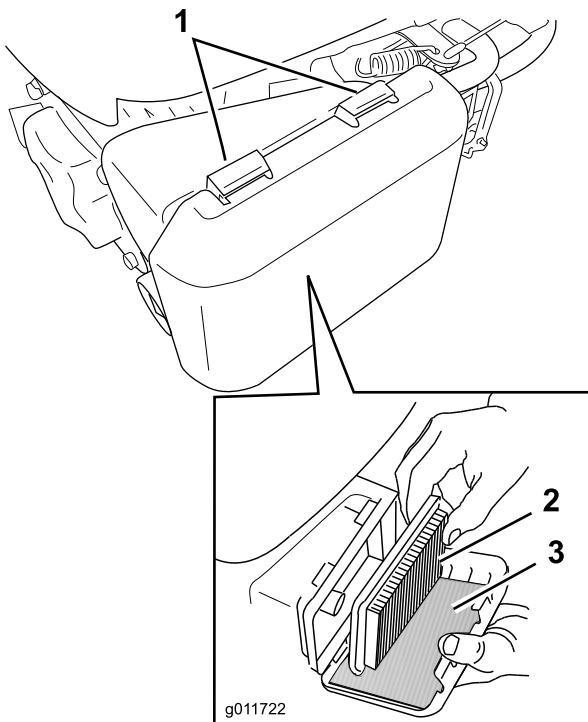

Figure 37
1. Press down on the latch tabs on top of the air-cleaner cover (Figure 37).
4. Remove the paper air filter and the foam pre-filter (Figure 37).